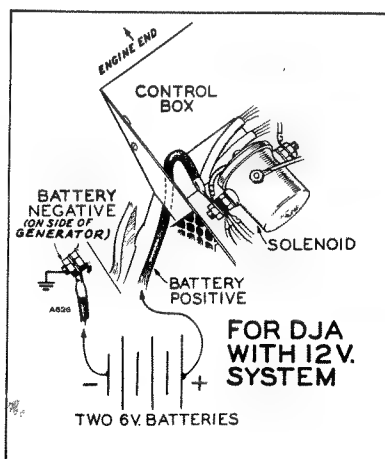

Fig. 8 Battery Connections
**BATTERY CONNECTION (Exciter Cranked Plant - Model DJA with 12-volt system).** - Refer to the wiring diagram and figure 8. If battery ground must be changed to agree with other equipment aboard a vessel, reverse the connections to the charge ammeter or re-mark the correct direction of charge. Crank electrically to flash field.